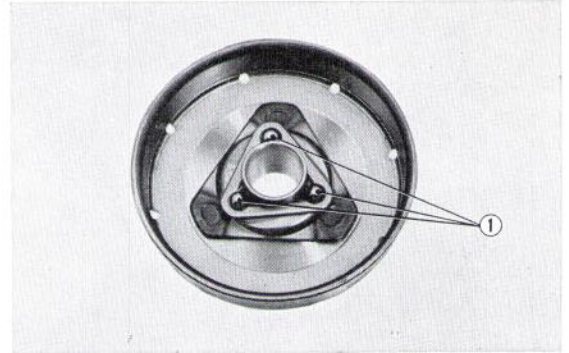

Fig. 2.40 ① #10 steel balls
2. Inspect for damage and wear of the #10 steel ball. (Fig. 2.40)